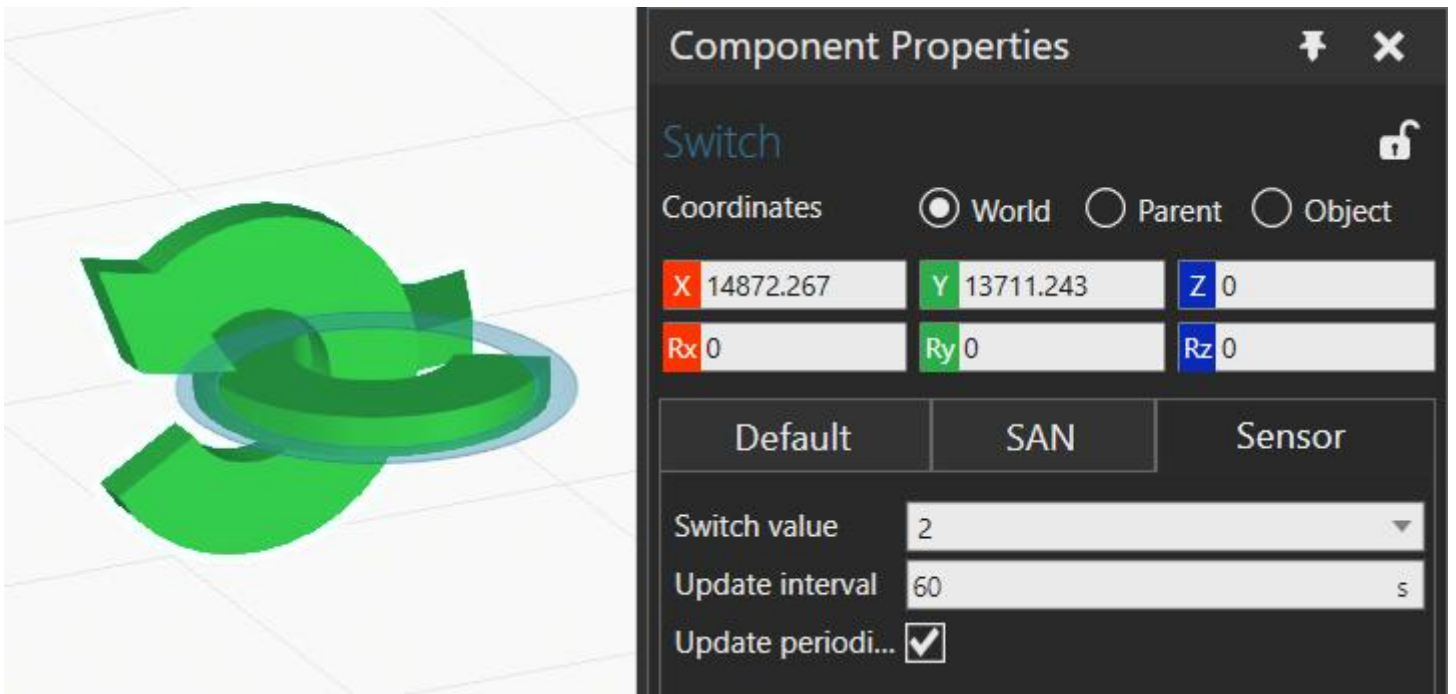

Figure 3. Screenshot of the *switch* sensor configuration tab.
**Switch** Simulates a *switch* allowing values of "0,1,2". Values can be configured in *Switch sensor tab* Properties (Figure 3).